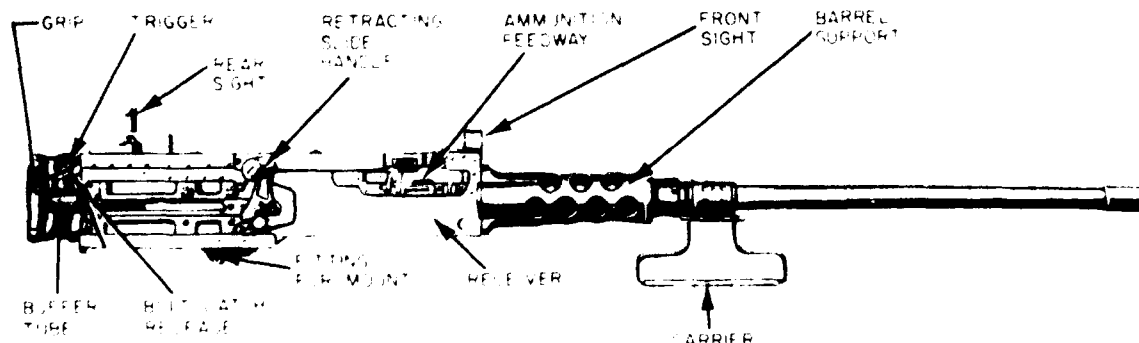

Figure 5-33.—The .50-caliber Browning machine gun (BMG), M2HB.
two types of barrels. An aluminum alloy “light” barrel is used for the aircraft version of the .50-caliber BMG, M2. A “heavy barrel” (HB) is issued for ship and surface craft use. Our discussion centers around the .50-caliber BMG, M2HB (fig. 5-33).